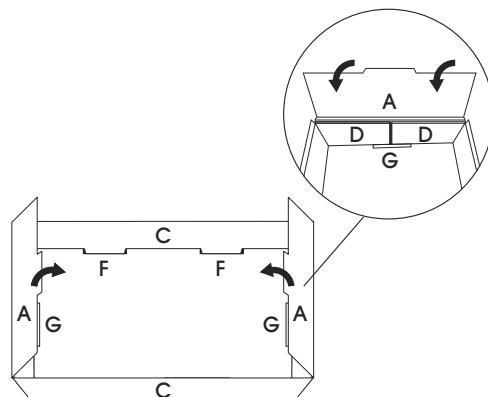

Figure 6
6. Lock the side panel tabs (C) into slots (F). (See Figure 6)
8. Fold side flap (A) over side flaps (D), locking the side flap tab (A) into slots (G). (See Figure 6)